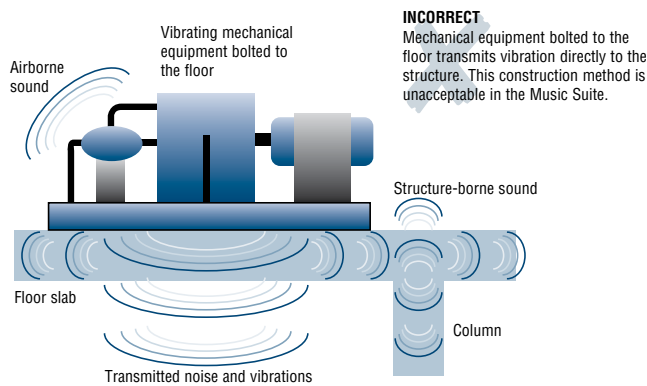

FIGURE 25
- If the HVAC systems mechanical rooms are near or adjacent to your music room you will probably be distracted with compressor noise and vibrations. Find the equipment — look on the roof over your room, outside your room on the ground level or below your room in a basement. If this equipment is not properly isolated it will transfer low-frequency sound right through the building structure (figure 25).